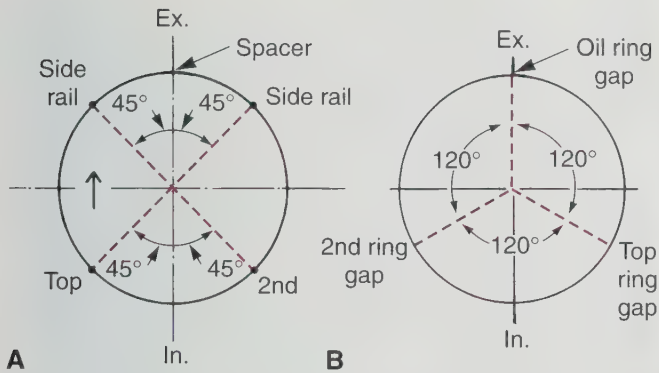

Figure 20-64. A—Proper ring end gap position with a three-piece oil ring. B—Proper ring end-gap for a one-piece oil ring.
2. Properly position ring end gaps. This is shown in **Figure 20-64**.